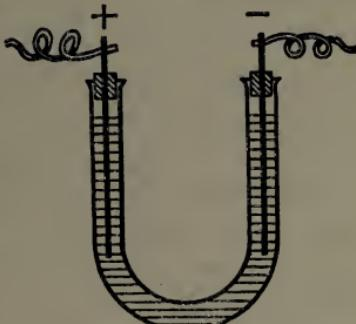

FIG. 24.
34. Electrolysis of a Solution of Salt.—Fill the U-tube shown in Fig. 24 within 1 cm. of the stoppers with a 10 per cent. solution of common salt(?). The U-tube should have an internal diameter of 12 to 15 mm. and should be 12 to 15 cm. high. The corks have carbon rods about 5 cm. in diameter passing through them and reaching nearly to the bottom of each arm of the U-tube. A small notch about 3 mm. in diameter is cut lengthwise in each cork to allow the escape of the gases. Attach the wires of a storage battery giving a potential of about 6 volts (3 storage batteries or 4 dry cells) to the carbon electrodes for one minute, or the arrangement set up in the laboratory may be used. At the end of that time apply a lighted match to the opening in the cork whence the gas is escaping most freely and notice the odor, cautiously, on the other side. Remove a little of the solution from each side with a glass rod and test it with litmus paper.